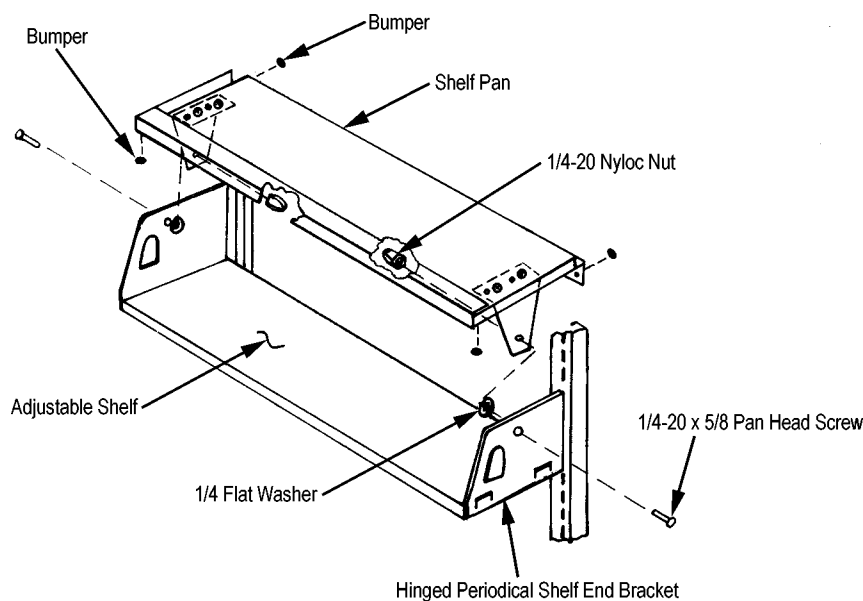
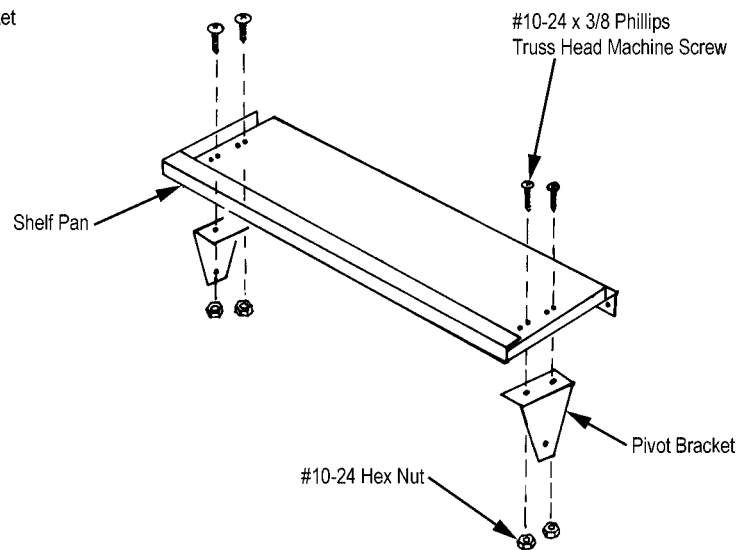

FIGURE 26A
FIGURE 26B
1. The hinged periodical shelf end bracket is similar to a regular adjustable shelf end bracket except a pivot hole has been punched into it. See Figure 26A.
3. There are four (4) holes provided in the face of the shelf pan (at each end) so that 12" or 16" deep shelves may be used. Pivot brackets for 12" and 16" shelves are different. (Check size of bracket if shelf does not balance properly after assembly).
4. Place hinged periodical shelf pan over narrow flange of pivot bracket and align holes. See Figure 26B.
6. Align holes in pivot brackets with 1/4 flat washers and holes in hinged periodical shelf end brackets and fasten with 1/4-20 x 5/8 pan head screws and 1/4-20 Nyloc nuts. Head of screw should be on outside of bracket and Nyloc nut toward inside of shelf. See Figure 26A.